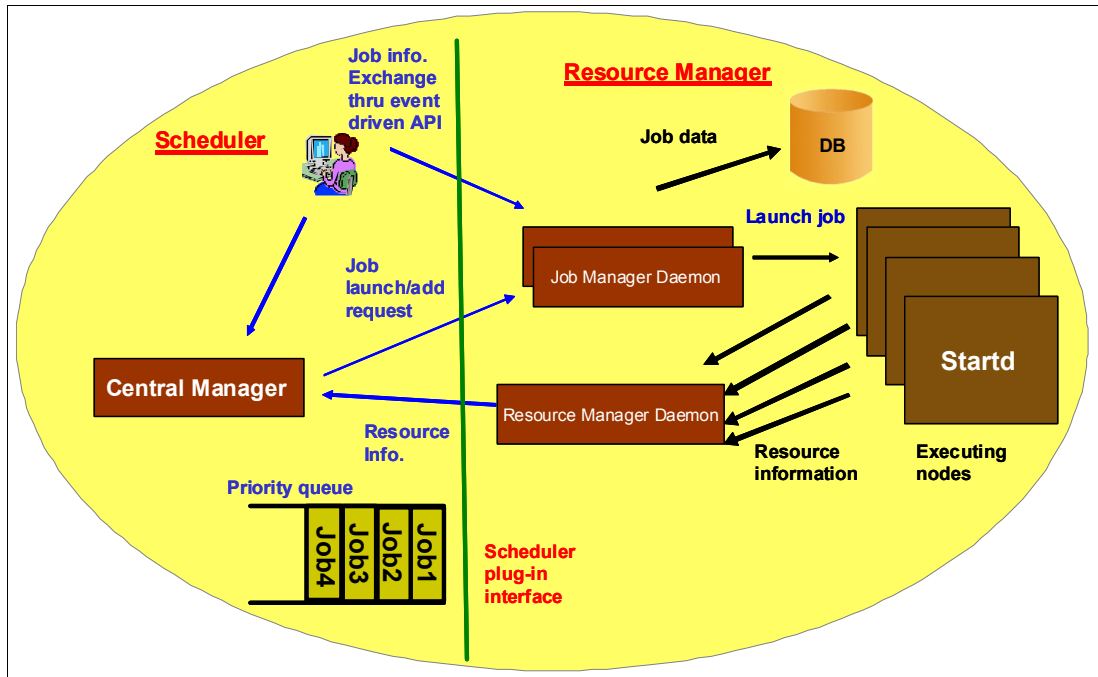

Figure 1-69 Scheduling and resource management flows in LoadLeveler
As shown in Figure 1-69 on page 94, LoadLeveler includes the following characteristics:
- ▶ Faster and scalable job launch as shown in Figure 1-69 on page 94